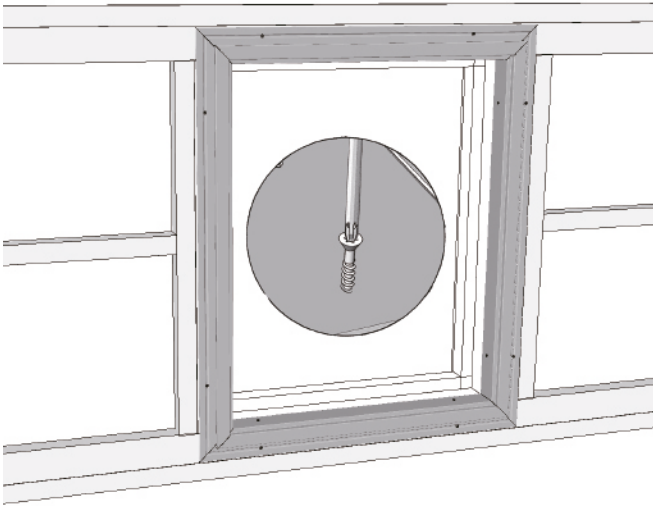

Fig24-2
2. Door and window openings HLYC-019F (45 degree angle to spell), pre-drilled holes and then fixed with open nails. As shown in Figure 24-2: